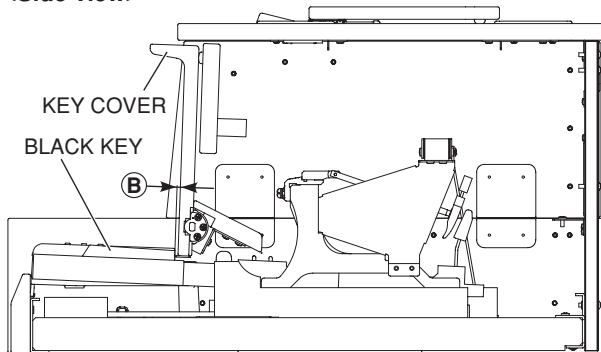

Fig. 3
Standard 1 Make sure that with the key cover opened the gap between the back of the black keys and the front surface of the key cover is within standard. (Fig. 3)
3.3 mm +1.7 mm/-1.3 mm, difference on the left and right within 1 mm. (Fig. 3)